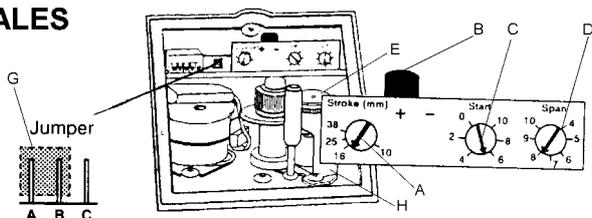

Fig.8
5. See Fig.8. Loosen the pot fixing screw 'H'. By sliding the pot assembly towards you, disengage gear 'E' from the main drive shaft. Turn the pot gear 'E' by hand in the anti-clockwise direction (when viewed from above) until the end stop is reached. Gently slide the pot assembly back into position so that the pot gear 'E' engages with the main drive shaft. Do not apply too much force in meshing the gears as over pressure will result in reduced life. Re-tighten the location fixing screw 'H'.
6. Set switch 'B' to the +(DA) position and Reinstatate the 24V supply.